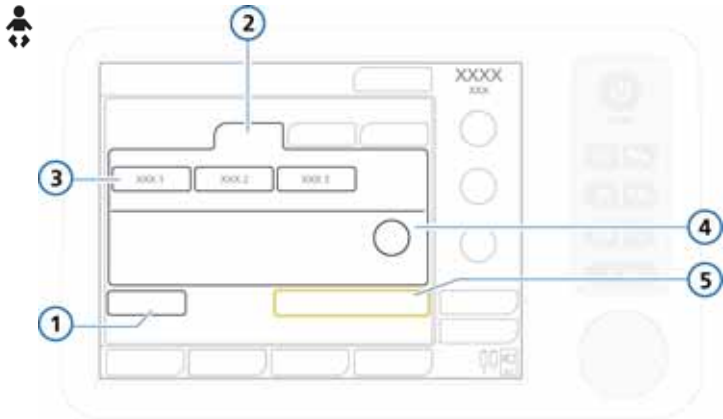

Figure 5-3. Patient setup/Standby window (neonatal)
- **Neonatal.** For neonatal patients (Figure 5-3). See Table 5-1 for age and weight ranges.